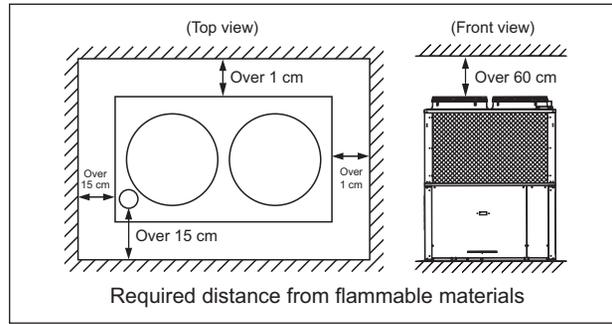

Fig. 2
- Leave the distances shown in Fig. 2 between the outdoor unit and any flammable materials.